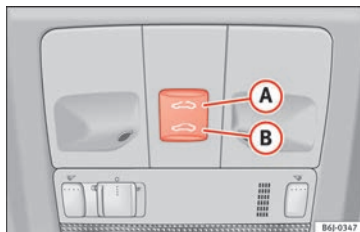

Fig. 9 On the interior roof lining: Panoramic sunroof controls
- Opening: Press the  **Fig. 9 (A)** button once only. If you keep it pressed down, it will open to the desired position.
- Closing: Press the  **Fig. 9 (B)** button once only. If you keep it pressed down, it will close to the desired position.